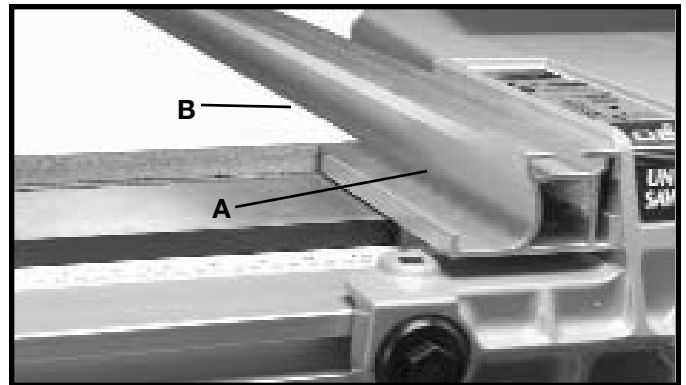

Fig. 46
When ripping material with a veneer facing that extends over the material, the fence (A) should be in the horizontal position with the veneer (B) extending over the lip of the fence, as shown in Fig. 46.